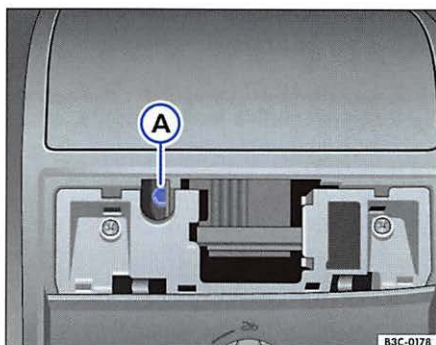

Fig. 31 Bolt for closing the power sunroof
- Insert a standard 4-mm Allen wrench into the socket head screw ⇒fig. 31 (A)